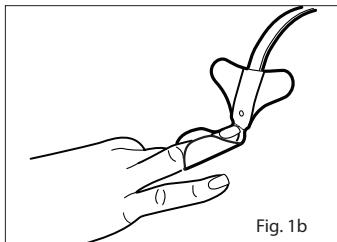

Fig. 1b
- Refer to Fig. 1b. Press the adhesive wings, one at a time, onto the finger. Complete coverage of the detector window is needed to ensure accurate data.